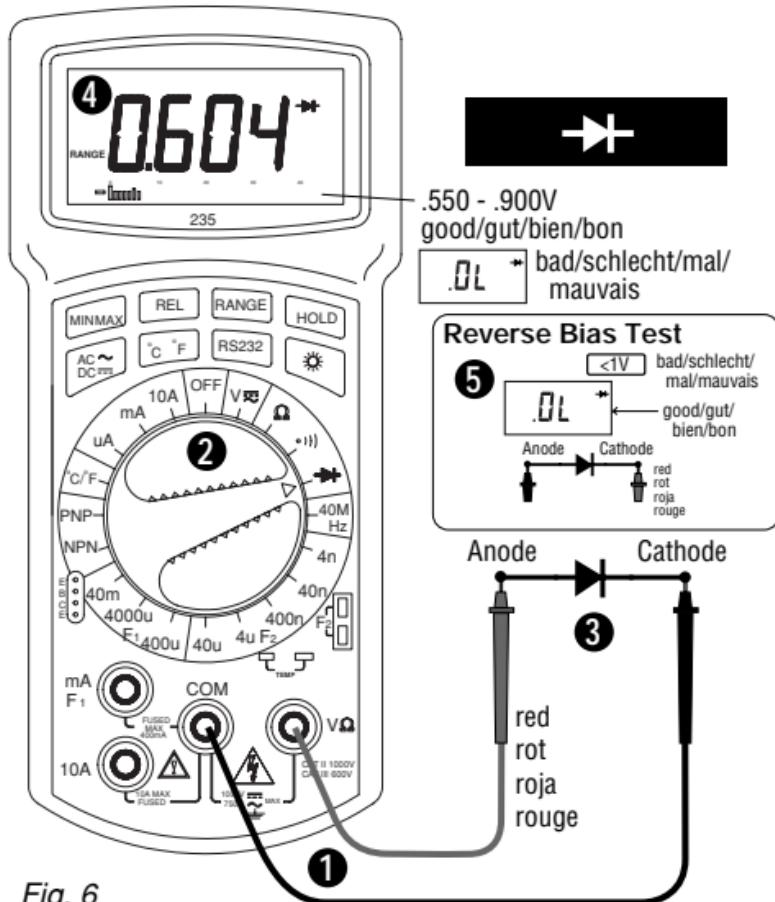

Fig. 6
① Turn off any power to the circuit to be measured and discharge any capacitors. Any voltage present during a resistance measurement will cause inaccurate readings. ② Connect test leads as shown in figure 6. ③ Set Function/Range Switch to Ω position. ④ Connect test leads to circuit being measured. ⑤ Read resistance value on Digital Display. Open circuits will be displayed as "OL".
DIODE TEST (See Fig. 6)
D • Dioden- und Transistortest (siehe Fig. 6)
E • Comprobación de diodos y transistores (vea Fig.6)
F • Test de Diodes et de Transistors (voir Fig. 6)